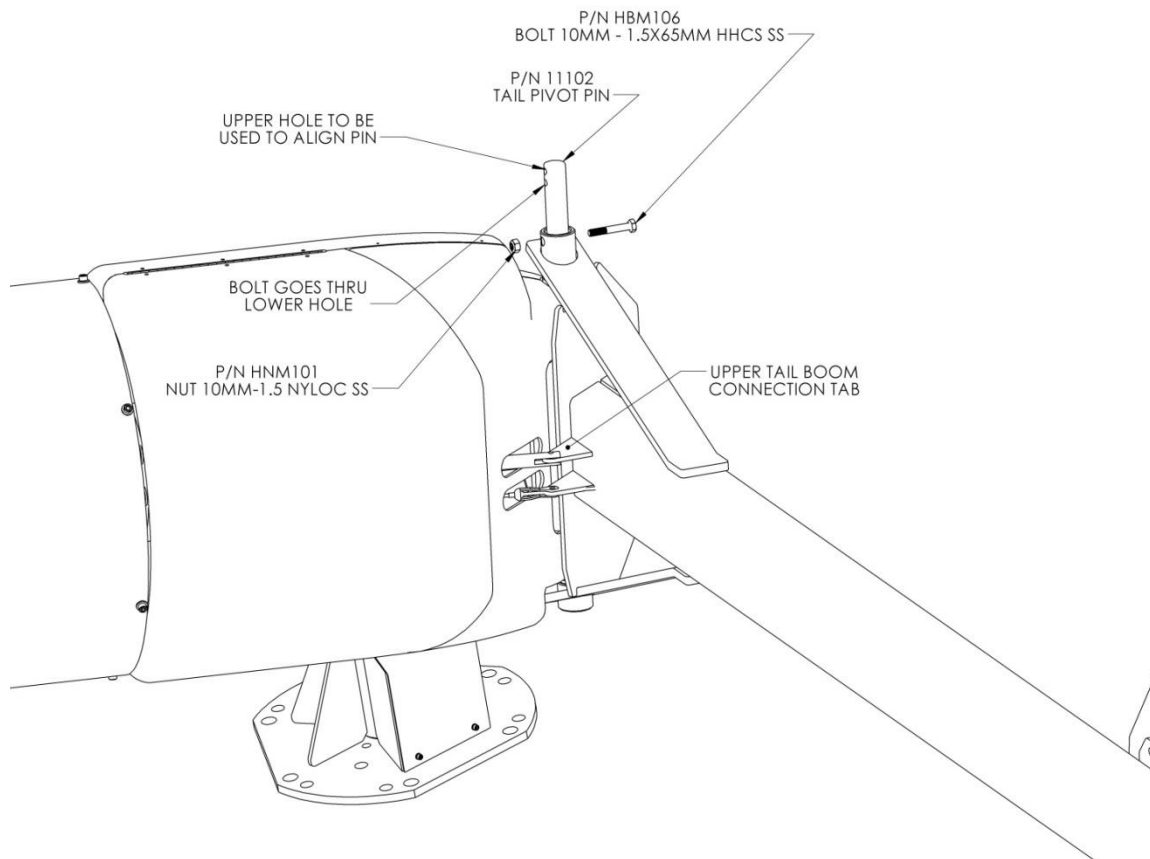

Figure 9: Excel Tail boom and Pivot Pin
4. Hold the tail boom in a position so the end with the fin is angled up $\sim 15^\circ$ and align the tail bushings with those of the powerhead, then insert the tail pivot pin as shown in **Figure 9**. The pin may need tapping through, but keep in mind that the stainless steel pin can be damaged if it is handled incorrectly. Use a block of wood or rubber mallet on the pin.